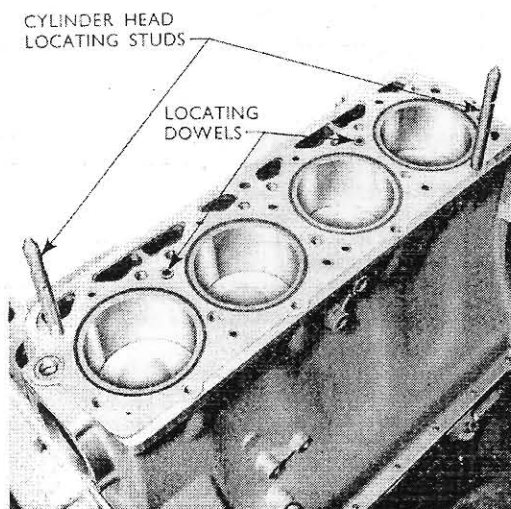

Fig. 27.
46. Install cylinder head locating studs (Tool No. CT.6076) to diagonally opposite bolt holes at either end of the cylinder block (see Fig. 27) and fit a new rubber seal in the recess at the rocker shaft oil feed drilling in the cylinder block top face.